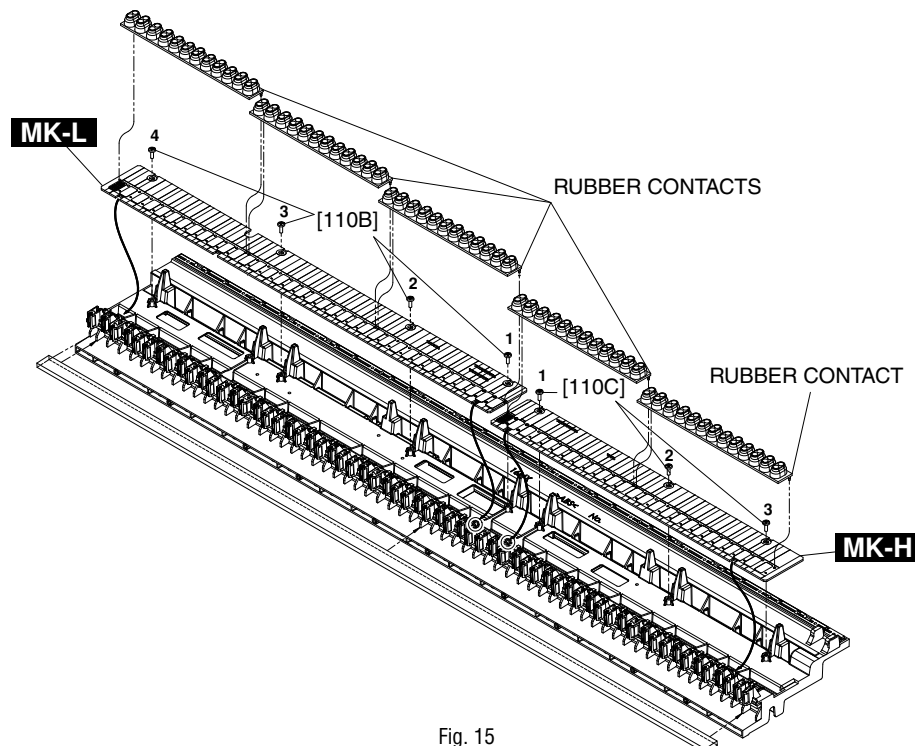
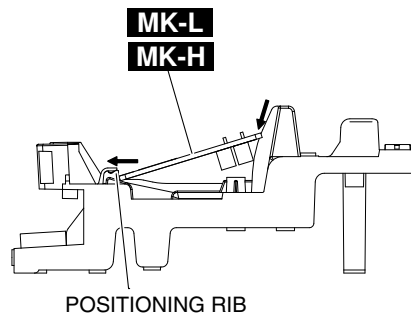

Fig. 15
Fig. 16
26-5-1. Remove the rubber contacts. (Fig. 15)
26-6-2. Remove the four (4) screws marked [110B]. The MK-L circuit board can then be removed. (Fig. 15)
* *When installing the MK-L circuit board, tighten the screws 1 through 4 in numerical order as shown in the figure "MK-L" in Fig. 15.*
26-7-2. Remove the three (3) screws marked [110C]. The MK-H circuit board can then be removed. (Fig. 15)
* *When installing the MK-H circuit board, tighten the screws 1 through 3 in numerical order as shown in the figure "MK-H" in Fig. 15.*
Insert the cut part of the MK-L circuit board into the positioning rib while plugging it onto the predetermined position on the keyboard frame, and securely tighten four (4) screws marked [110B]. (Fig. 15, Fig. 16)
Insert the cut part of the MK-H circuit board into the positioning rib while plugging it onto the predetermined position on the keyboard frame, and securely tighten three (3) screws marked [110C]. (Fig. 15, Fig. 16)